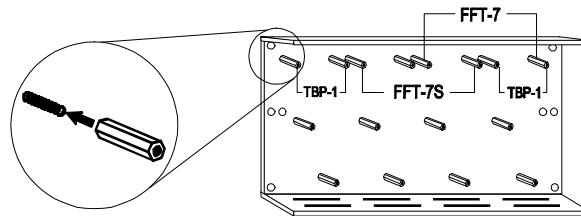

Figure 4-5 Installing Standoffs for an FFT-7/FFT-7S
1. Install standoffs for an FFT-7 or FFT-7S on the CHS-4L chassis mounting studs as shown in Figure 4-5: